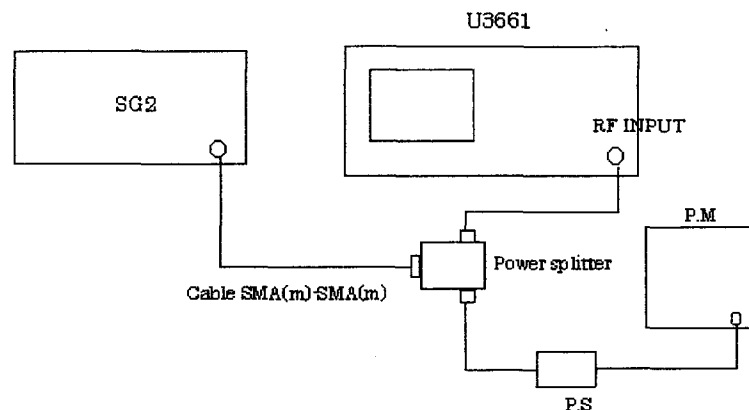

Figure 3-12 Setup of a Image, Multiple, Out of Band Responses Test
3. Connect equipment as shown Figure 3-12.